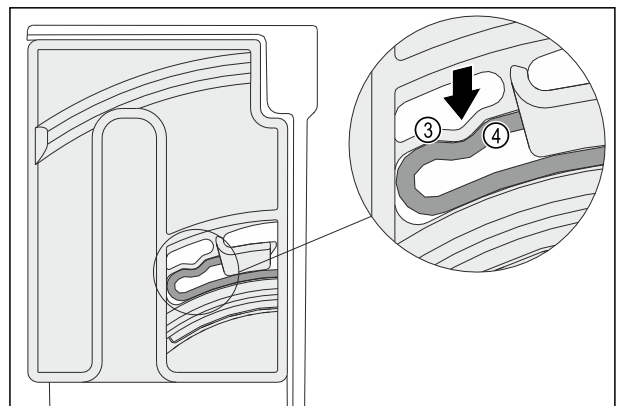

Fig. 141
- The elastic element Fig. 141 (3) of the turning unit audibly engages in the round shape of the rib Fig. 141 (4).